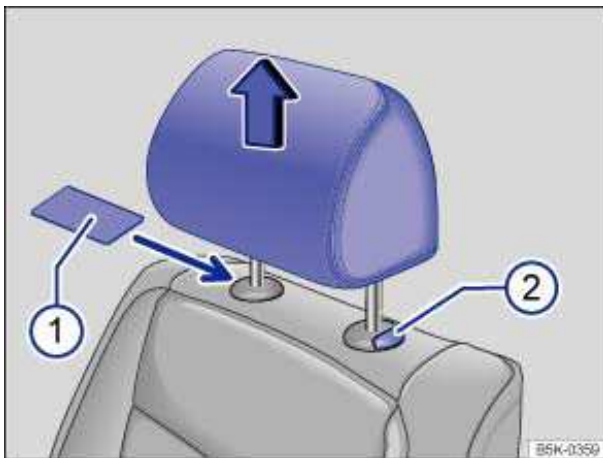

Fig. 60 Removing the front head restraints.
- Slide a flat object, such as a plastic credit card, underneath the right side of the cap on the right-hand seat guide rod ⇒ fig. 60 (1) to unlock the head restraint.
- To release the left-hand guide rod, press button (2) in (towards guide rod) and hold.
- Pull the head restraint out completely while holding button (2).